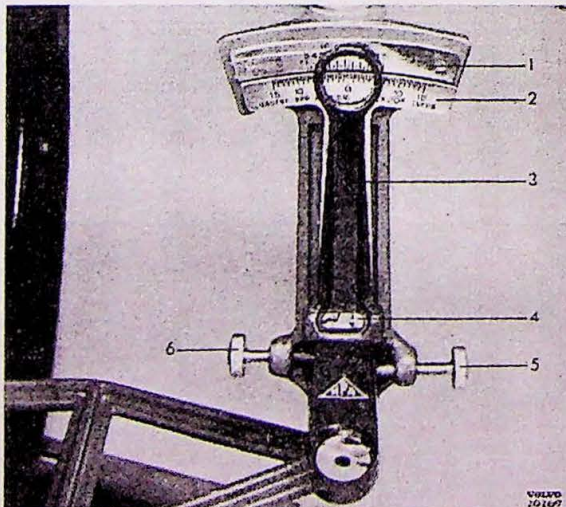

Fig. 31.
2. Adjust water-level to middle position by means of the right set screw (5 fig. 31). The movable scale zero should be lined up with the indicating line.